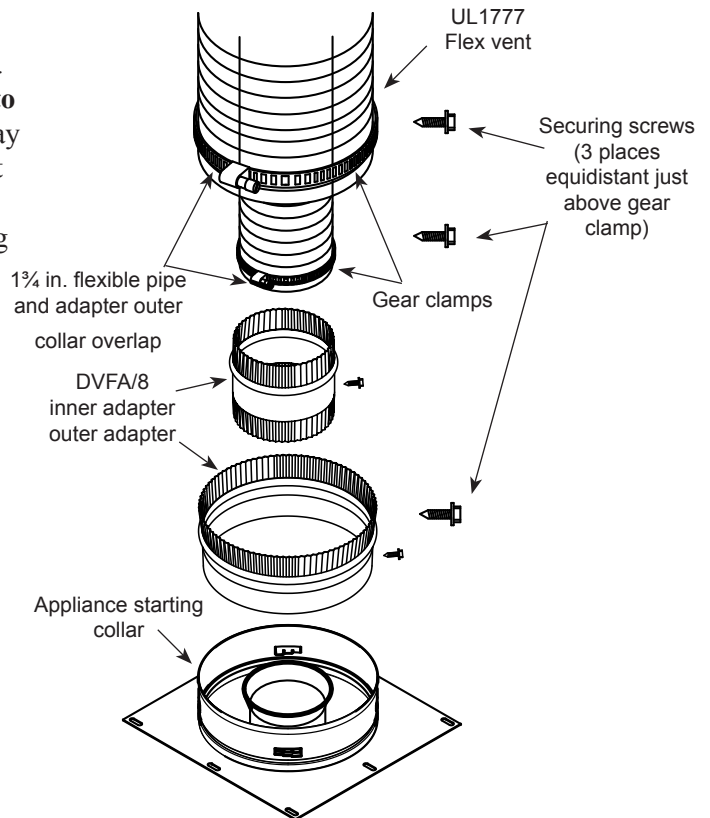

Figure 1 —
2. The flex adapter starter kit (DVFA/8) is used to attach flex venting to the appliance starting collar. It includes 4" inner and 7" outer adapter rings (refer to *Figure 1*).
- A. Installing the inner flex adaptor and pipe (see *Figure 1*).
- B. Installing the outer flex pipe (refer to *Figure 1*).